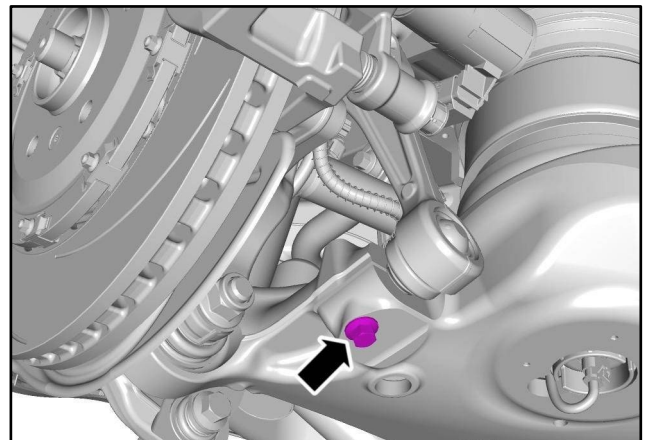

Figure 2
3. Remove the bolt that attaches the right-side rear torque reaction link to the rear suspension bottom arm and discard the bolt (refer to Figure 2).